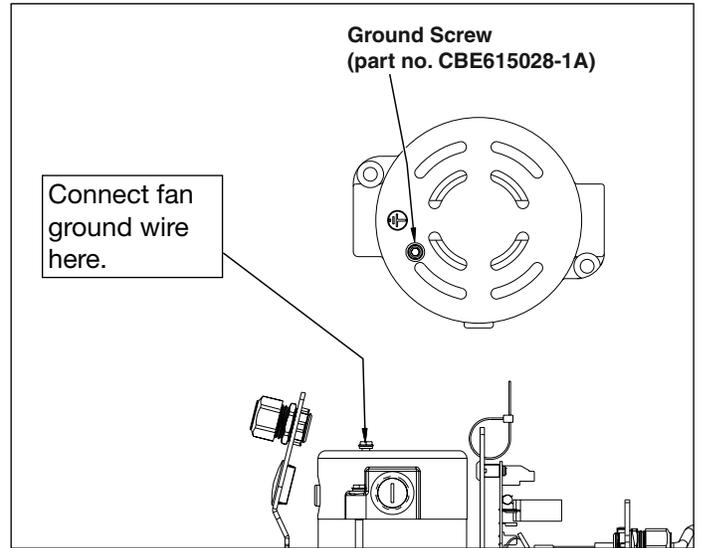
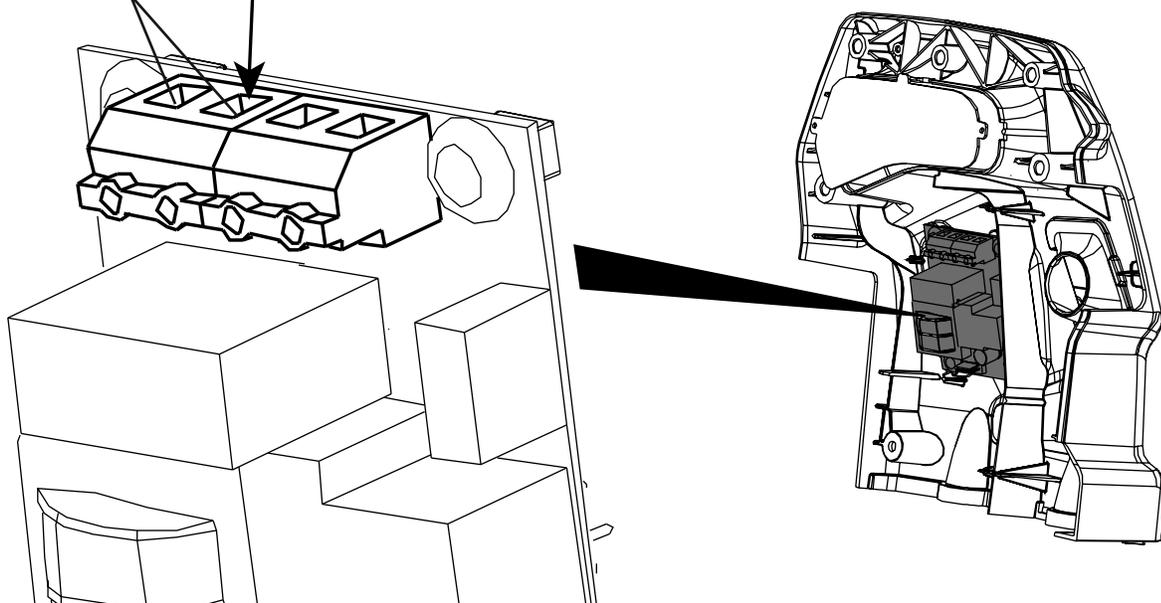

Figure 7, Ground Wire Connection to Pump Motor
Figure 10, Connection to Standard Board - 115V and 230V Fans (Standard pumps NOT equipped with LCD)
- a. Connect the fan ground wire to the pump motor casing. See Figure 7.
- c. Connect the fan wire with the pin connector to the right-hand motor power terminal on the standard board. See Figure 10.
24. Post tensioning (PT) and classic bolting (BTW) pumps only: